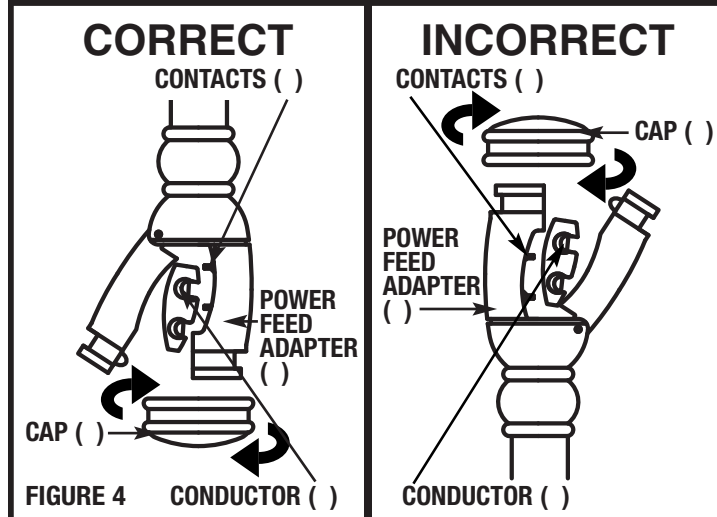

FIGURE 4
INSTALL RAIL ONTO POWER FEED AND SUPPORT (Fig. 4)
2. Install rail into rail adapters so conductors () face contacts () of power feed (see Fig 4). ***Please make sure contacts () fit into rail conductors () properly.** NOTE: If power feed or support adapters are not able to close around rail, turn rail around so adapter fits properly.